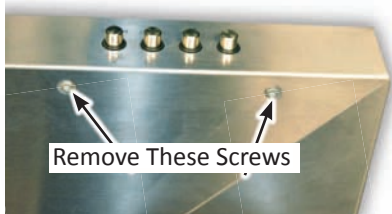

Figure 1
3. Remove (2) T10 Torx screws from the under side of the frame at the right corner of the hood, see figure 1.